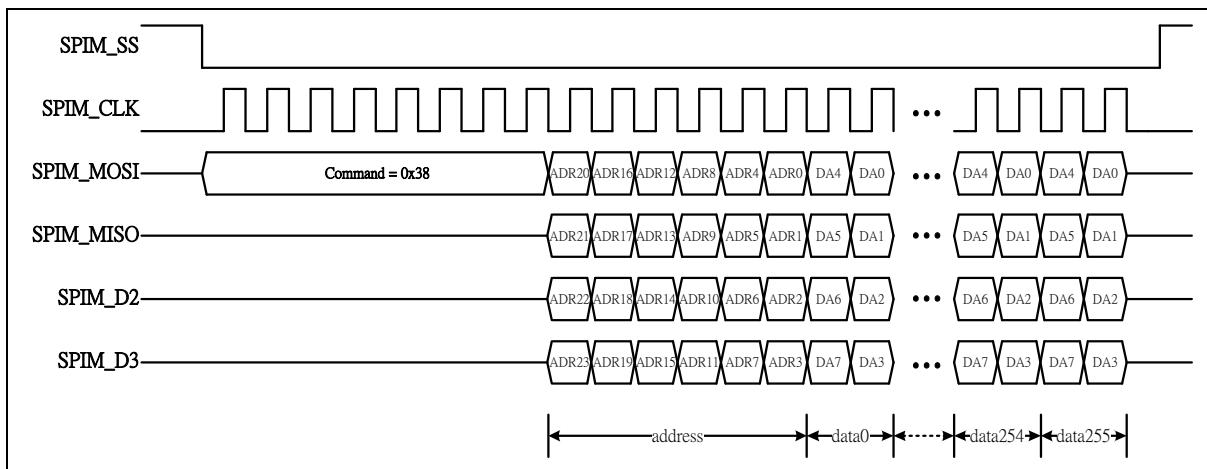

Figure 6.21-4 TYPE_2 Program Command Flow with Quad Mode Write
- Quad write, set CMDCODE (SPIM_CTL0[31:24]) to 0x38 for TYPE_2 program command (refer to Figure 6.21-4).